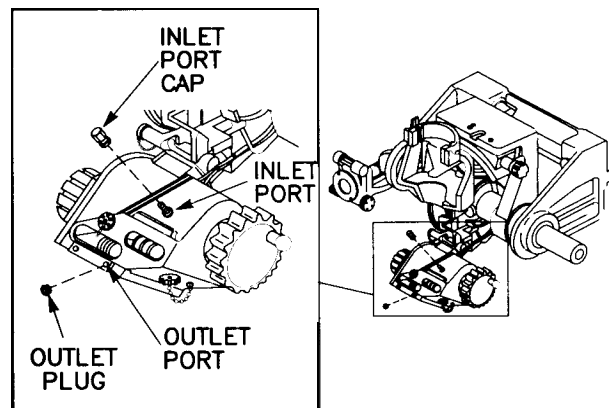

Figure 3-14 M145/M145A1 Telescope Mount
- (1) Perform purging procedure para 2-5.c.
- (2) Purge instrument at 5 psig for 5 minutes.
b. Telescope Mount, M145/M145A1 (fig. 3-14).